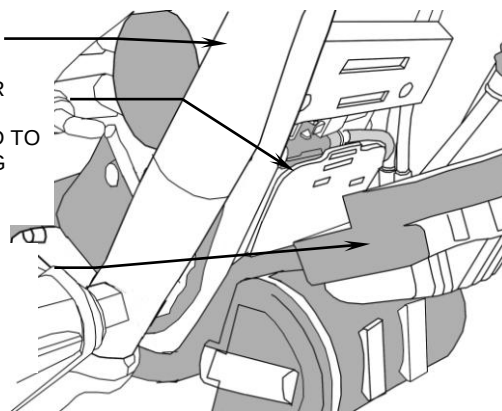

FIGURE 6
9. Continue routing connectors and harness forward along lower right frame rail, be sure to keep clear of brake rod and linkage. Route forward to voltage regulator. Remove the two Allen bolts holding the voltage regulator onto the lower front frame, see Figure 6. Let it drop down, then directly behind that is a black plastic panel. Hinge that panel down to access the plugs behind it. Locate the front oxygen sensor connection, slide it off its holding pin and unplug the connector. Plug the Fi2000 O₂ sensor harness male connector into the O₂ sensor female connector and slide them back onto stock plastic panel location. Mate the stock male harness connector with the female Fi2000 connector, place this set of connectors between connectors attached to plastic panel, be sure Fi2000 harness exits on the right side between panel and frame. Reinstall the panel and the voltage regulator. Leave a small amount of slack in harness at connector and zip tie along lower right frame rail in 3 locations.